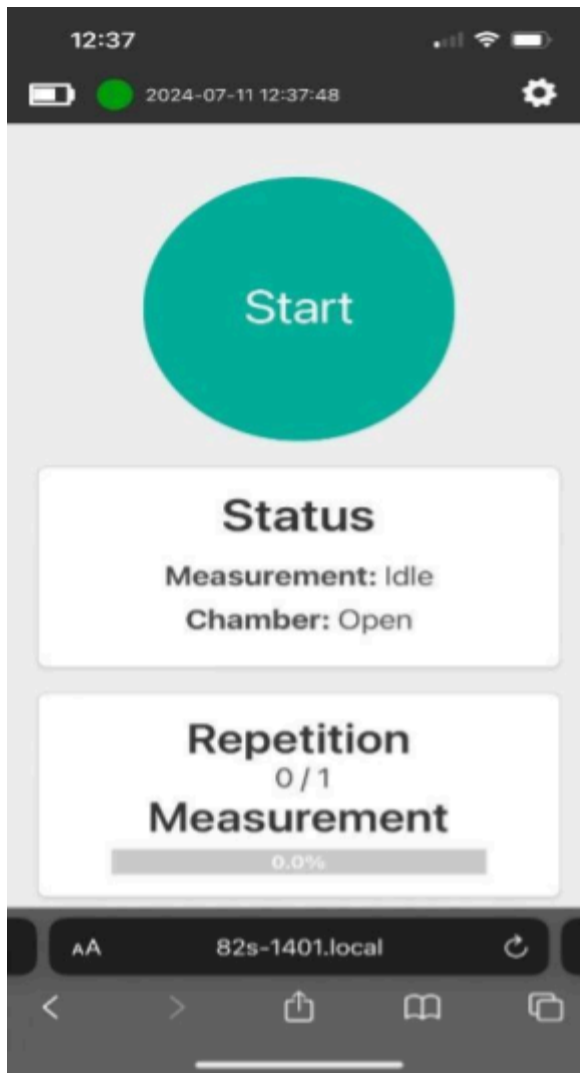

Figure 2: Starting screen
7. When fully warmed, connected, and ready to measure, the display will show a green start button (*Figure 2*).